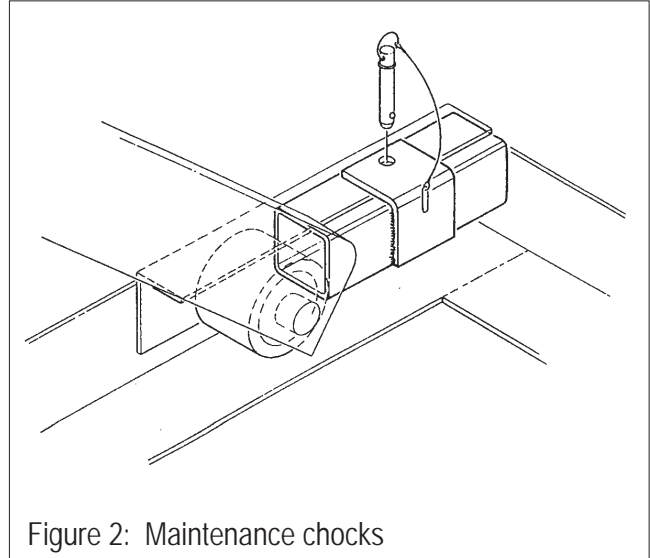

Figure 2: Maintenance chocks
- a) Build pit to standard pit dimension as outlined in figure 2, paying careful attention to raceway, clearance and height requirements.
The AX/AXR/AXS/AXT/AT Series Lifts are designed to be maintained and serviced in a raised position. Maintenance chocks are provided for safely locking the lift in a raised position. Refer to Figure 2.